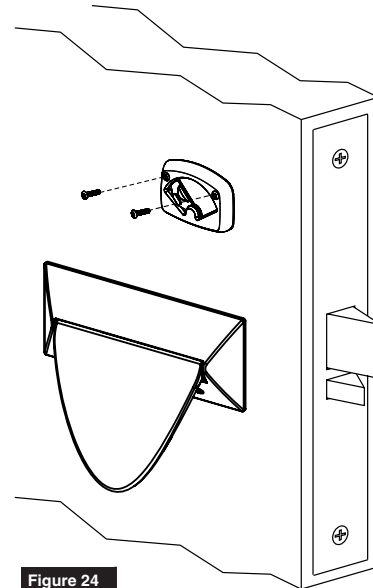

Figure 24
1. Install turn-piece loosely using two (2) turn-piece mounting screws. (Figure 24)